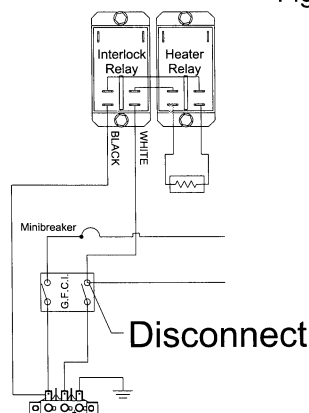

Figure 4A
9. At the GFCI, disconnect the wire (white) to the heater interlock relay (refer to Figure 4A).